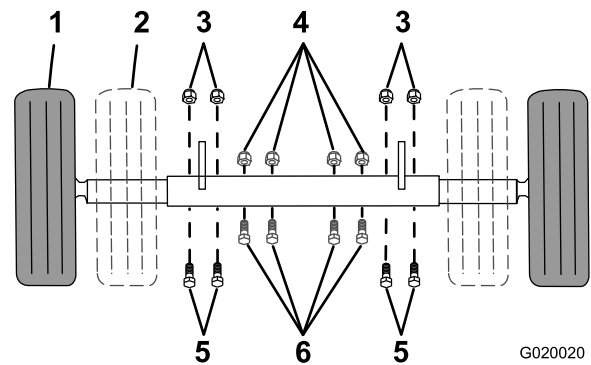

Figure 23
1. Support point (2)
4. Remove the bolts and nuts that secure the inner axle to the outer axle (Figure 23).
- Slide each side of the axle inward to the narrow position (Figure 23).
- Slide each side of the axle outward to the wide (tow) position (Figure 23).
7. Insert the bolts through the axle holes (Figure 23).